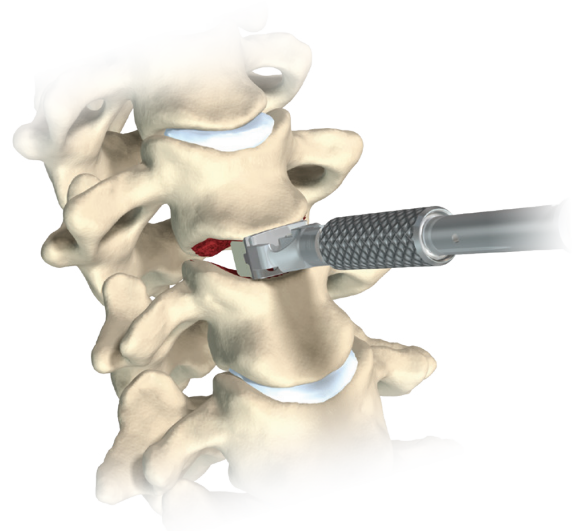

Figure 7
- Insert the implant into the intervertebral space (Figure 7).